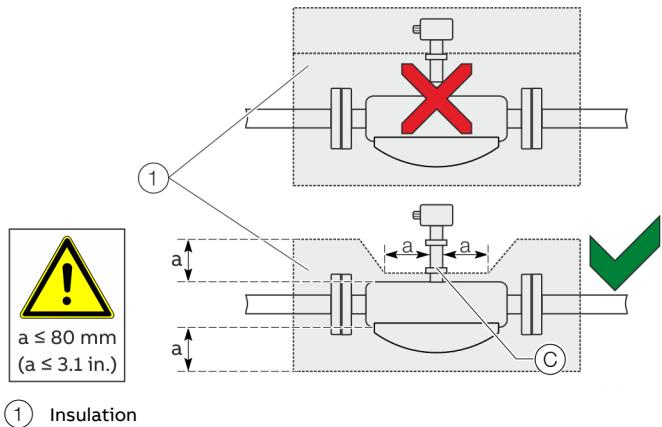

Figure 7: Installation at T_{medium} -50° to 205 °C (-58 to 400 °F)
The sensor may only be insulated in conjunction with the option TE1 'Extended tower length for sensor insulation' or TE2 'Extended tower length – insulation capacity with dual gasket,' as shown in Figure 7.
When operating the sensor in conjunction with heat tracing, the temperature at point (C) (Figure 7) 100 °C (212 °F) may not be exceeded at any time!